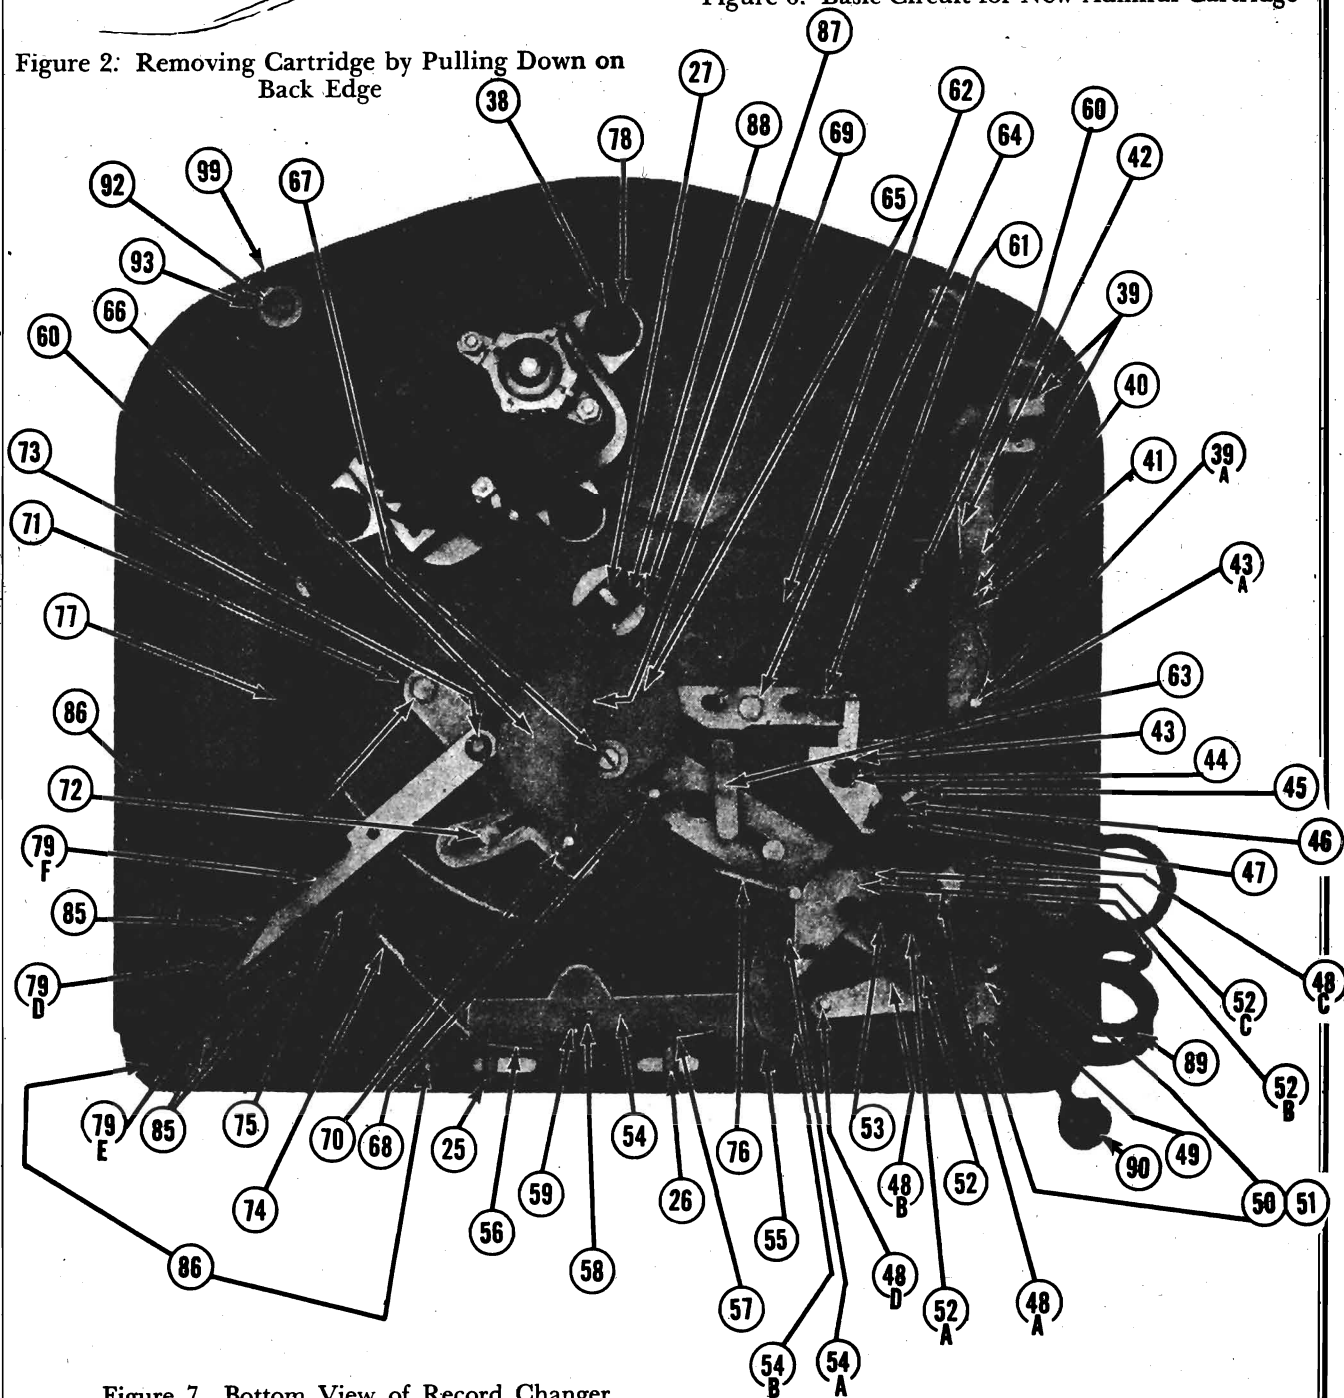
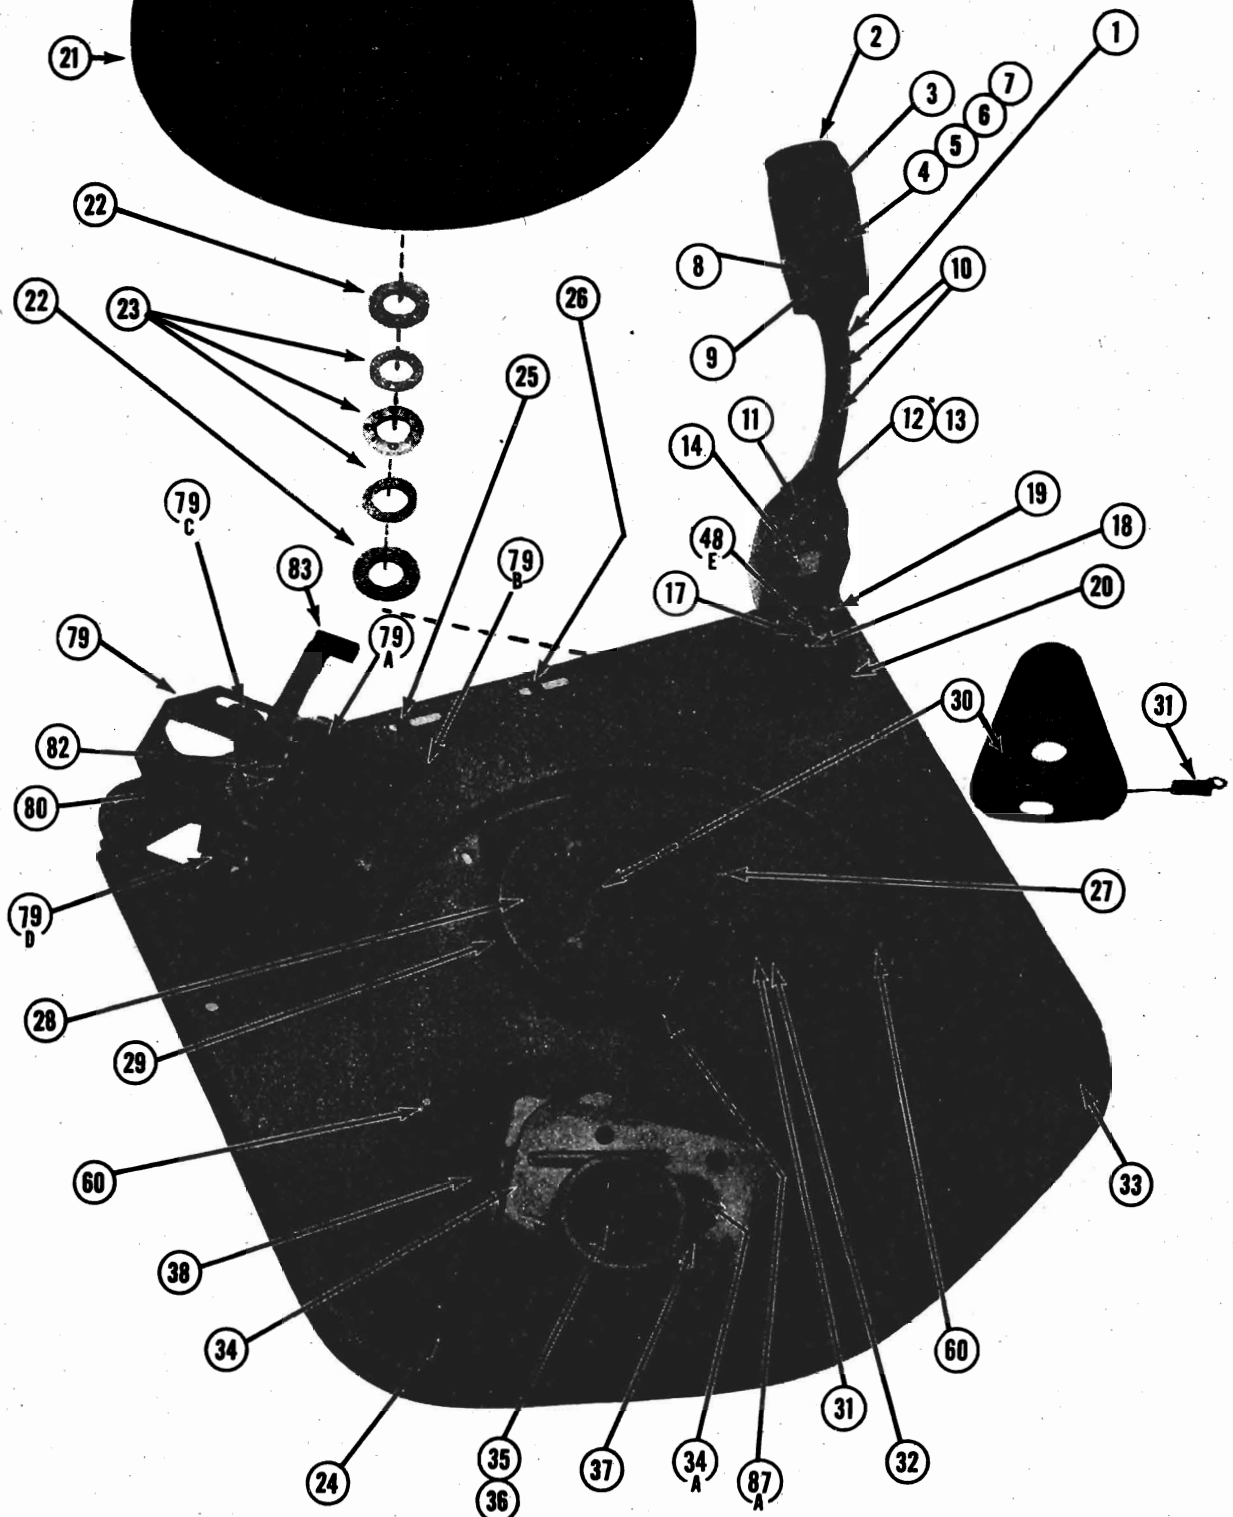

Figure 7. Bottom View of Record Changer
Figure 8. Top View of Record Changer
(See Figures 7 and 8)
The changer operates as follows: The changer mechanism is driven during its change cycle by the knurled hub of the turntable rotating the rubber-tired drive wheel (28). During normal playing, the drive wheel is held in a neutral position as illustrated in Fig. 8 so that the indentation prevents the tire from contacting the knurled hub. The drive wheel (28) is held in this position by the trip lever (63) and the stop stud (65) on the main cam (66).
When a record has finished playing and the needle has reached the trip point, the arm control lever roller (48C, Fig. 7) makes contact with reject link (43A), moving the trip arm (43) which releases trip lever (63). The trip lever spring (62) moves trip lever (63) freeing cam stop stud (65) and allows spring (69) to pull the main cam clockwise (bottom view). Since the main cam (66) and the drive wheel (28, Fig. 8) are on the same shaft, the drive wheel is thus turned so its rubber tire is against the knurled hub of the turntable. The turntable now rotates the drive wheel (28) which in turn rotates the main cam (66). Roller (68, Fig. 7) riding on the main cam, moves arm control slide (52), and the raised portion (52A) of this slide raises arm lift shaft (This shaft is 19 on the RC170 and 103 on the RC170A.) which lifts pickup arm from the record. Stud (52C) moving with slide (52) pushes arm control lever (48A) causing the pickup arm to move to the right, clearing the record. The movement of roller (68) also causes trip lever (63) to re-engage in the recess of trip arm (43). Trip spring (61) holds the trip arm (43) and trip lever (63) together.
Roller (70), also riding against main cam (66), moves push-off arm (71). This movement is transmitted through the linkage of 79F, 79D (Fig. 7) to the
push-off plate 79A, Fig. 8. (Note that the record stack rests on plate 79A.) The shape of the main cam (66) is such that the push-off plate (79A) first moves back, allowing the bottom record to drop onto the record support plate (79B). Then the push-off plate (79A) slides forward and drops the next record to be played but only after the pickup arm has cleared the record stack. The little slide in the top end of the center post holds back all records other than the bottom one.
Adjust the 12-inch set-down with screw (25), Fig. 8. Turning screw (25) in (as seen through the left hand slot) moves the set-down point for 12-inch records further from the center post and turning the screw out moves it closer to the center post. The proper set-down point is between  $5\frac{5}{8}$ " and  $5\frac{11}{16}$ " from the needle to the near side of the center post.
#### 8. ADJUSTMENT OF PICKUP POINT (See Fig. 7)
#### 10. ADJUSTING DISTANCE BETWEEN HEAD ASSEMBLY (79) AND CENTERPOST (See Figs. 7, 8)
The adjustment of the head assembly (79) is made by loosening the three screws. 85. (underneath the changer) and moving the assembly closer or further away from the center post as the case may be. The head assembly is in proper relationship to the center post when it is set with a dimension of  $4\frac{7}{8}$ " from the front edge of the record support plate (79B, Fig. 8) to the rear of the center post (side nearest the record support plate) and at a point on the center post of the same height as the record support plate. This dimension is taken with the changer set to play 10-inch records.
NOTE B: Three different type push off links (79F) have been used. The one shown in figure 7 is the latest but is now installed with its offset to the rear of the changer. In other words it is turned over on its axis 180°. This latest type can be used on all earlier changers.